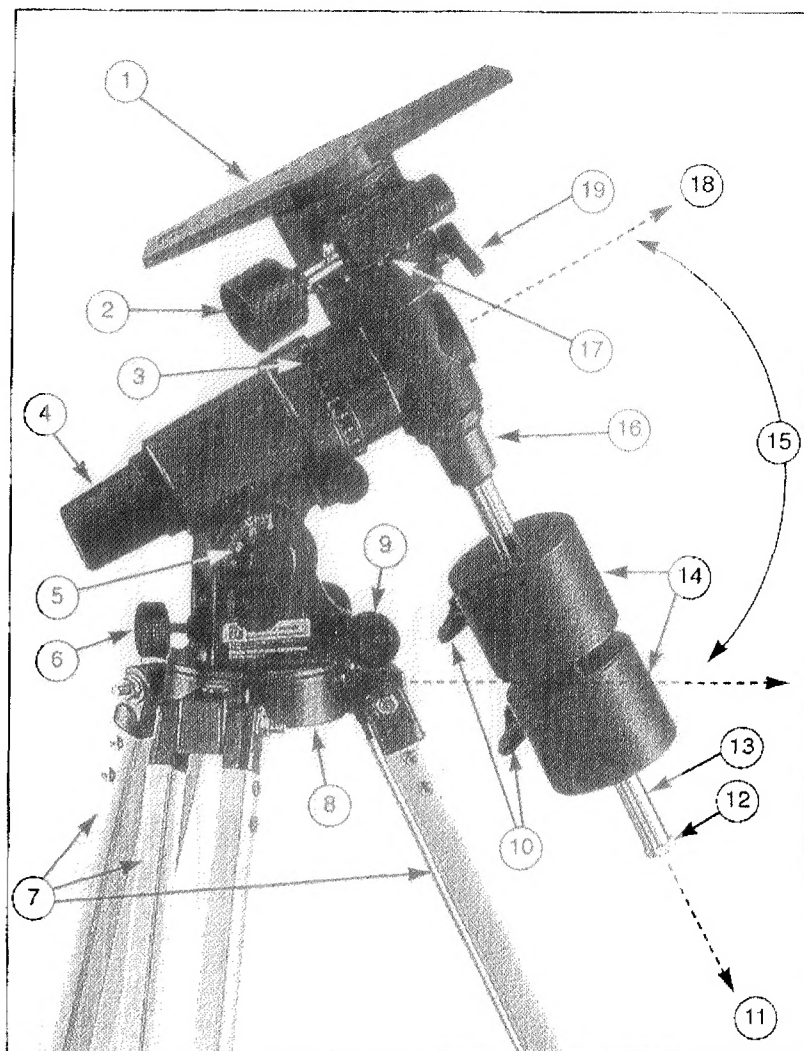

Fig. 1: LXD 500B Equatorial Mount
Captions for Fig. 1
At the end of the counterweight rod (3), Fig. 5, unscrew the counterweight safety stop (12), Fig. 1. Slide one counterweight onto the rod and lock in place by tightening its black counterweight lock screw (10), Fig. 1. For the LXD 500B mount, slide the second counterweight into place and tighten its lock screw. When the counterweight(s) is secure, replace the counterweight safety stop. Be certain that the counterweight safety stop is always securely in place.
1. Loosen the R.A. lock lever (3), Fig. 6, by rotating the lever counterclockwise until it stops. The Optical Tube Assembly now rotates freely about the Polar Axis (18), Fig. 1. Rotate the telescope so that the counterweight rod is parallel to the ground (horizontal).
2. Loosen the counterweight lock screw(s) (10), Fig. 1, and slide the counterweight(s) along the rod until the telescope remains in one position without tending to drift in either direction. Re-tighten the counterweight lock screw(s) and the R.A. lock lever (3), Fig. 6.
3. Loosen the Dec lock lever (2), Fig. 6, by rotating the lever counterclockwise until it stops. The Optical Tube Assembly now rotates freely about the Declination Axis (11), Fig. 1. Rotate the telescope so that the tube is parallel to the ground (horizontal).
**Note:** The Fine Azimuth Adjustment Knobs (9), Fig. 1, are generally only utilized during the precise polar alignment procedure described in the instructions accompanying the #812 Polar Alignment Finder.